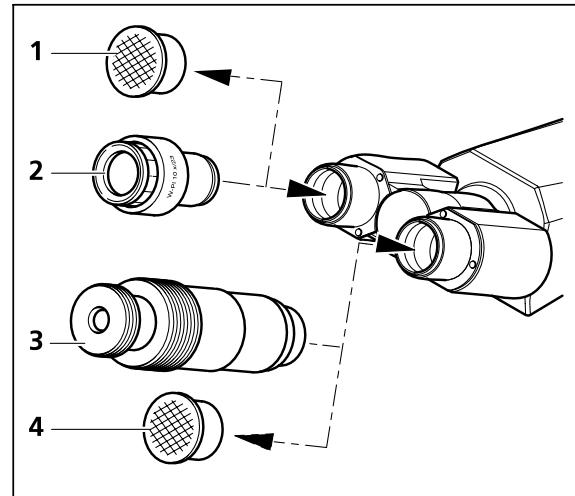

Fig. 3-4 Inserting eyepieces
- Remove both dust cover caps (Fig. 3-4/1 and 4) from the binocular tube.
- Remove both eyepieces (Fig. 3-4/2) from the box and insert them into the binocular tube to the stop.
- Instead of an eyepiece you may insert an auxiliary microscope (Fig. 3-4/3) into one of the binocular nozzles in order to examine aperture, phase and dark field diaphragms and to center phase and dark field diaphragms. These diaphragms can be focused with the adjustable crystalline lens.